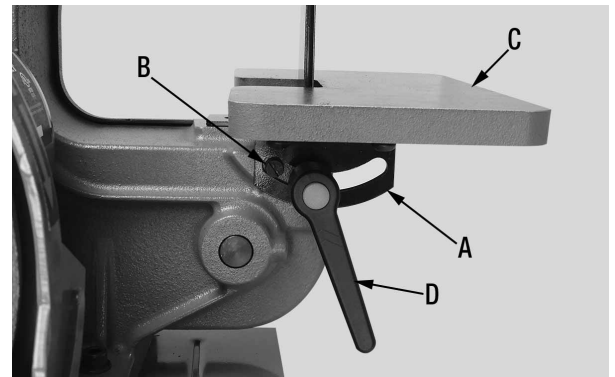

Figure 4
1. Position the opening of the sanding belt table bracket (A) Fig.4 over the stud (B) as shown.
2. Secure the sanding belt table (C) Fig.4 using a washer and lock handle (D).
Note: The lock handle (D) Fig.4 is spring loaded, screw the lock handle by rotating it clockwise. Then pull the handle outward and rotate back to starting point, release the handle and continue tightening the lock handle until the sanding belt table is secure.